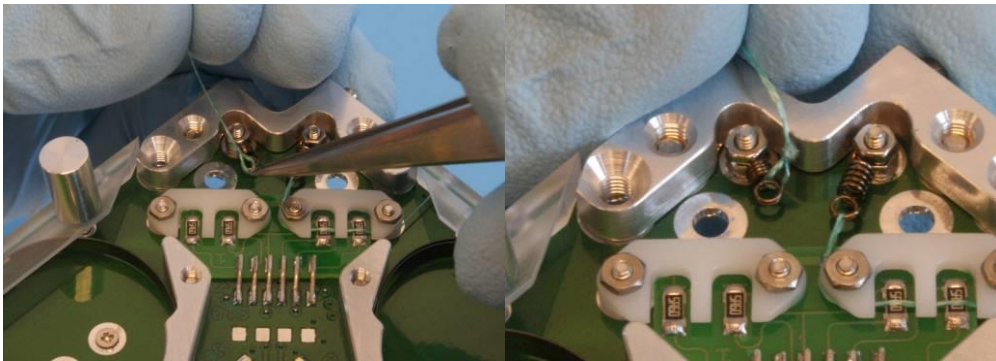

Figure 5-3 Mounting burn wire to pull spring
5. Mount the small loop side of the wire to the pull spring with tweezers (Figure 5-3).